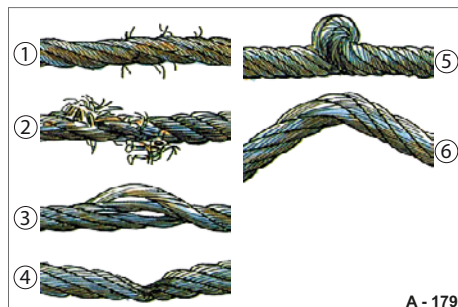

Fig. 226 Cable damage
- ▶ Check the unwound cable for possible damage (Fig. 226/1-6).